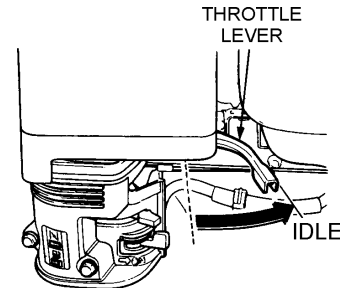

Figure 16. Throttle Lever (Idle)
- Move the throttle lever to the **IDLE** position (Figure 16) and run the engine for three minutes at low speed.